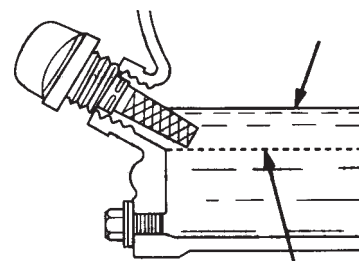

Figure 7. Engine Oil Dipstick (Oil Level)
4. If the oil level is low (Figure 7), fill to the edge of the oil filler hole with the recommended oil type (Table 5). Maximum oil capacity is .63 quarts (0.6 liters)